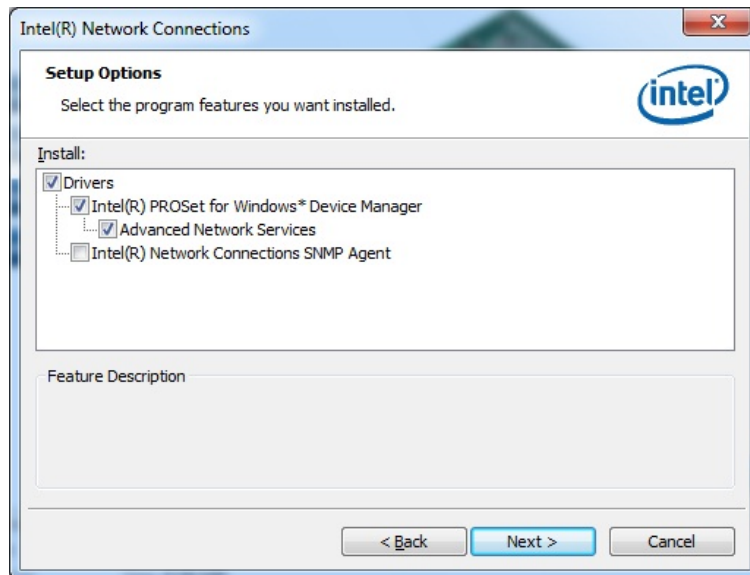

Figure 6-14: LAN Driver Setup Options
Step 12: The **Setup Options** screen in **Figure 6-14** appears.